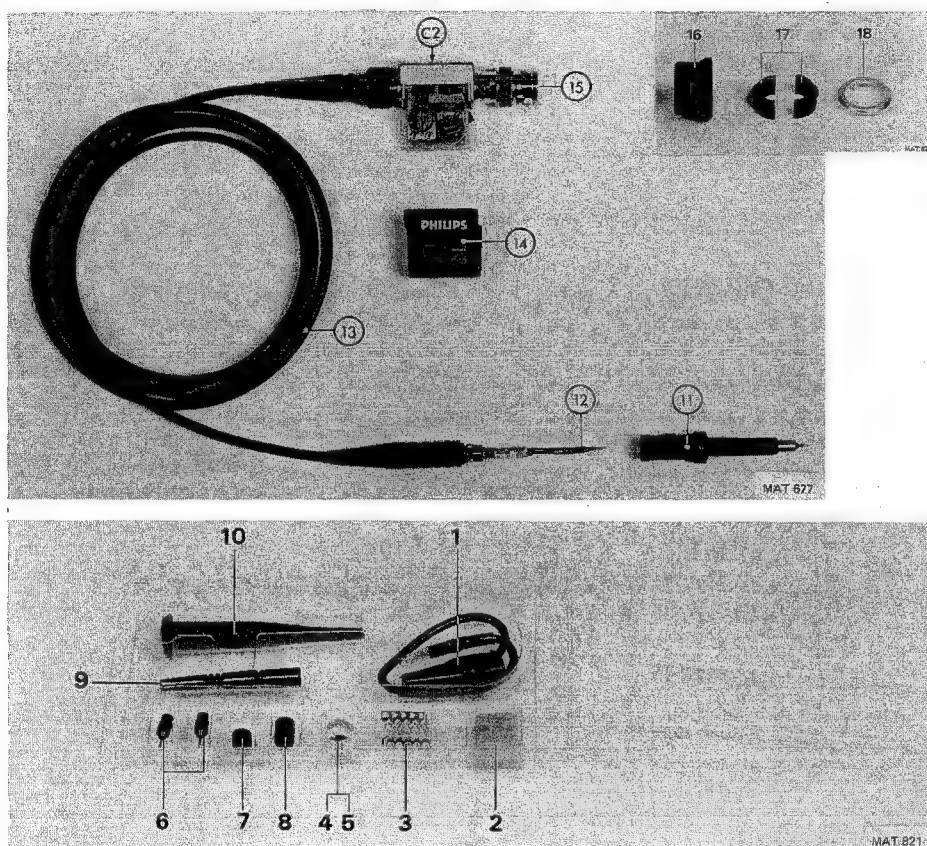

Fig. 1.11. Dismantling + accessories
A trimmer C2 (Fig. 1.11.) can be adjusted through a hole in the compensation box to obtain optimum square-wave response. See Fig. 1.5., 1.6. and 1.7.
### *Dismantling the probe (see Fig. 1.11.)*
### *Dismantling the compensation box (see Fig. 1.11.)*
*Mechanical parts (see Fig. 1.11. and 1.12.)*